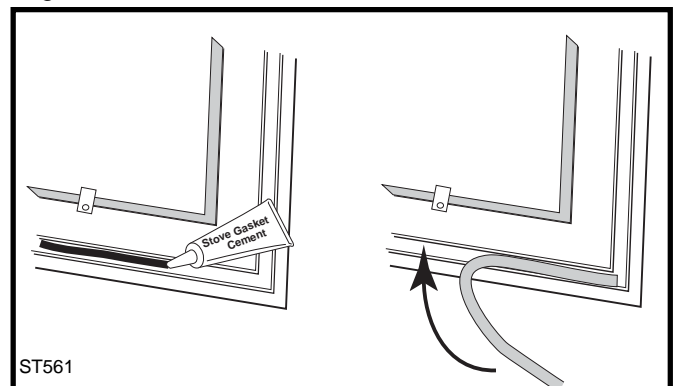

Fig. 42 Lay a bead of gasket cement then press gasket in place.
5. Lay an unbroken 1/8" (3 mm) bead of gasket cement in the newly-cleaned channel. (Fig. 42)
6. Starting at one end, press the gasket into the channel. (Fig. 42) Ensure a good joint where the gasket meets before trimming any excess. Do not overlap the gasket ends or leave ends with ragged edges.